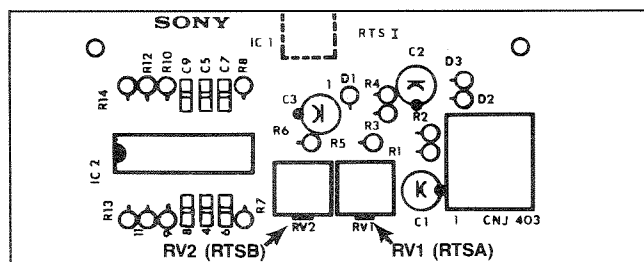

Figure 6-17. RTS PC Board
**STEP 9** If the duty cycle is not 50%, it will be necessary to adjust RV1 on the supply RTS board. (See Figure 6-17.)
- STEP 13** If the duty cycle is not 50%, it will be necessary to adjust RV1 on the take-up RTS board. (See Figure 6-17.)
- STEP 15** If the duty cycle is not 50%, it will be necessary to adjust RV2 on the take-up RTS board. (See Figure 6-17.)